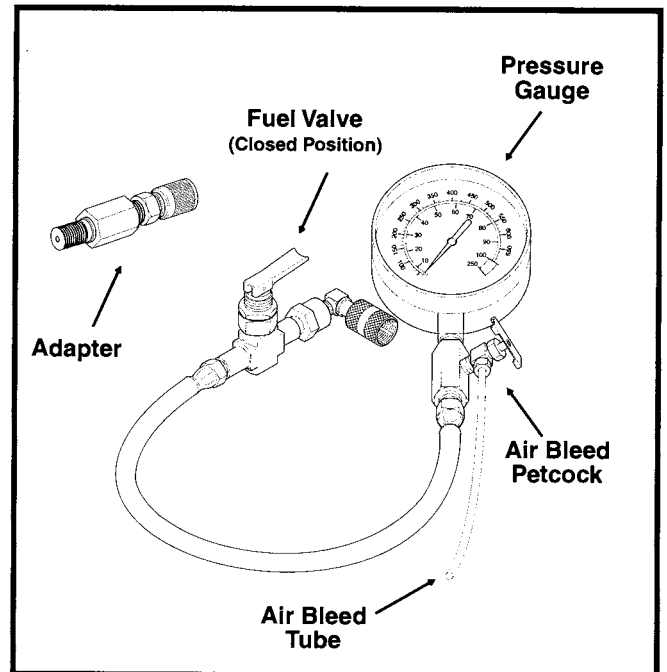

Figure 114. Fuel Pressure Gauge (HD-41182) with Adapter (HD-41182-1)
5. Thread the Fuel Pressure Gauge Adapter (HD-41182-1) into the fitting. See Figure 114. Hold the hex on the fuel tank fitting while tightening the adapter.
9. Start and idle engine to pressurize the fuel system. Open the fuel valve to allow the flow of fuel down the hose of the pressure gauge. See Figure 114.